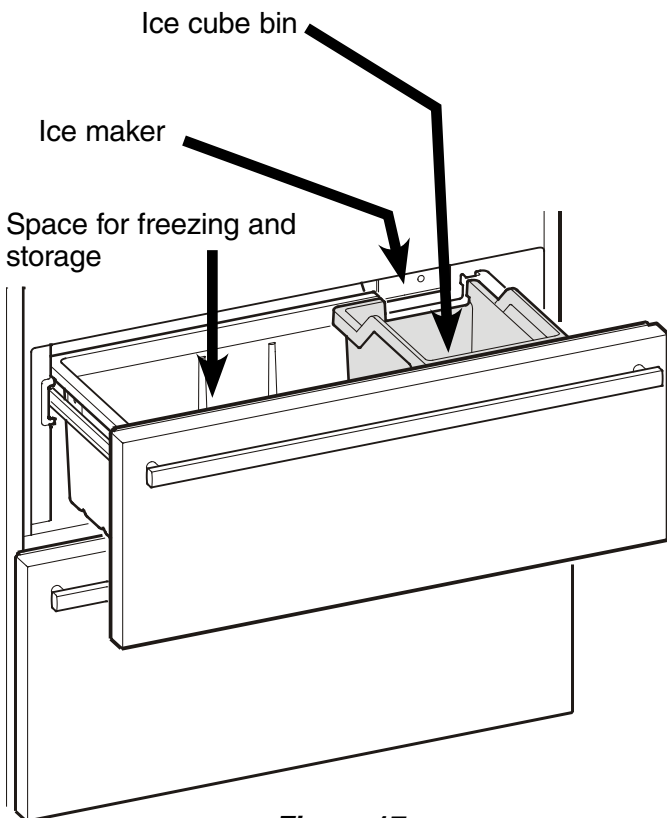

Figure 17
Freezer compartment description - Figure 17
- Remove glass shelves as shown in **Figure 17**.